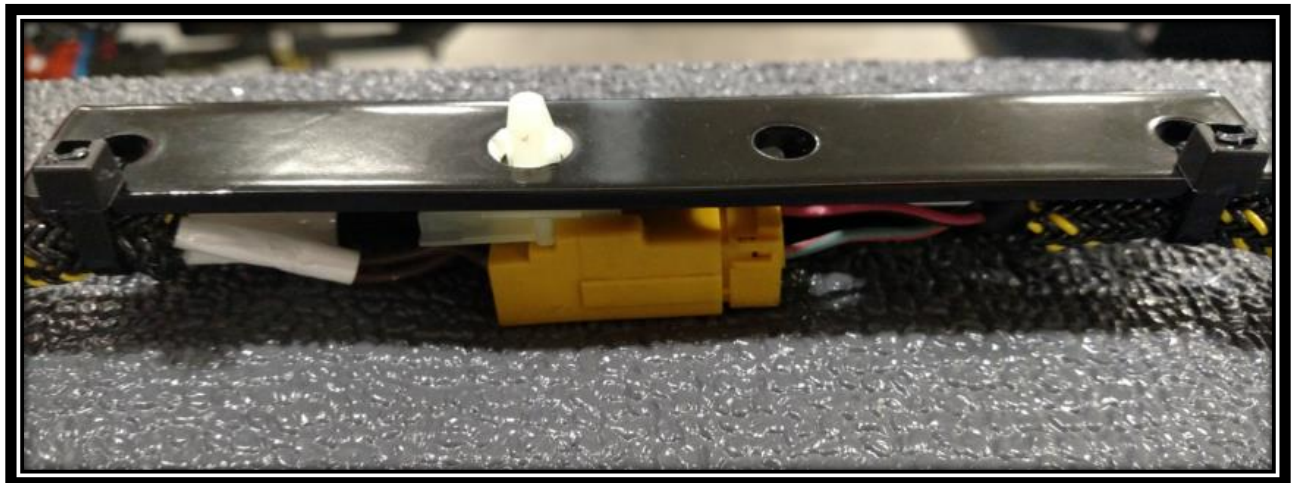

FIG. 5.2
7. Secure harness using tie straps and holes in bracket, use outside holes only for securing harness. Refer to FIG. 5.2.